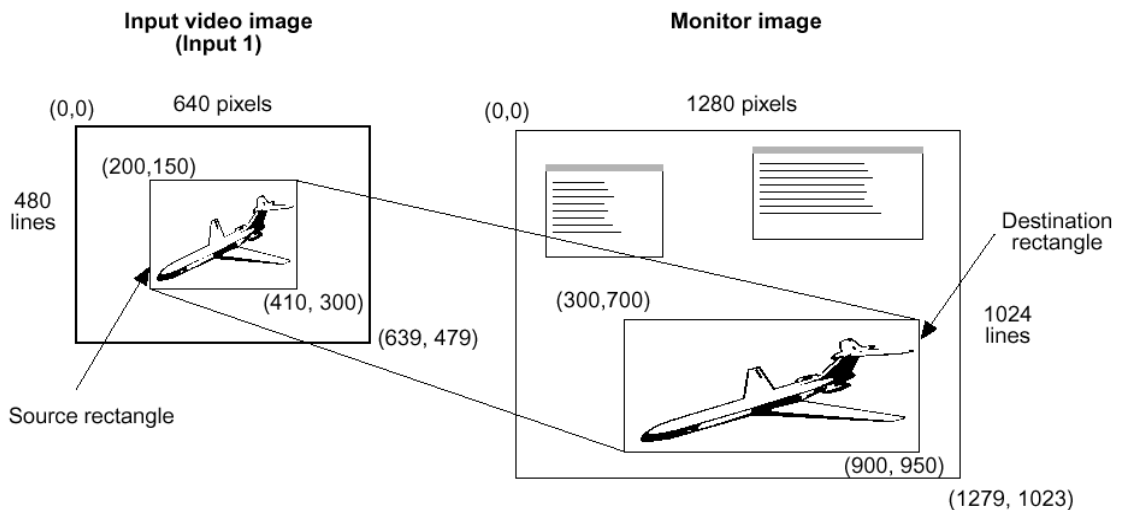

FIGURE 4. Selection of an Image Segment for Display in a Window
*Example*—define the source rectangle in Figure 4. That is, for window 1, set the rectangle's top left corner to begin at (200, 150) of the input image, and use a section 210 pixels wide and 150 lines high:
*Example*—define the destination rectangle in Figure 4. That is, place the top left corner of window 1 at (300, 700) of the display's raster, and use a window 600 pixels wide and 250 lines high:
Varying the destination rectangle's size but preserving its aspect ratio makes the displayed image larger or smaller. As long as its proportions correspond to those of the source rectangle, the displayed image will resemble the input image. If you *independently* vary the shape of either the source or destination rectangle, so that their aspect ratios are no longer the same, your displayed picture will appear stretched or squeezed compared to the original image. Figure 4 shows how the image is stretched by using a destination rectangle with a different, more elongated shape than that of the source rectangle.